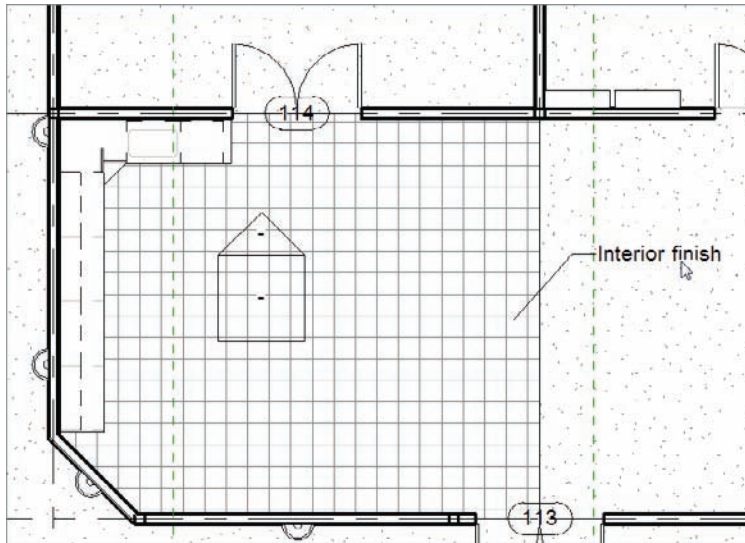

FIGURE 11.71 Placing the Interior finish note
7. Place your cursor over the tile floor, as shown in Figure 11.71. Notice that the tag reads Interior Finish. This is the default description that you'll change in just a moment. When you see this tag, pick a point on the tile floor, and then place the note to the right, as shown in the figure.